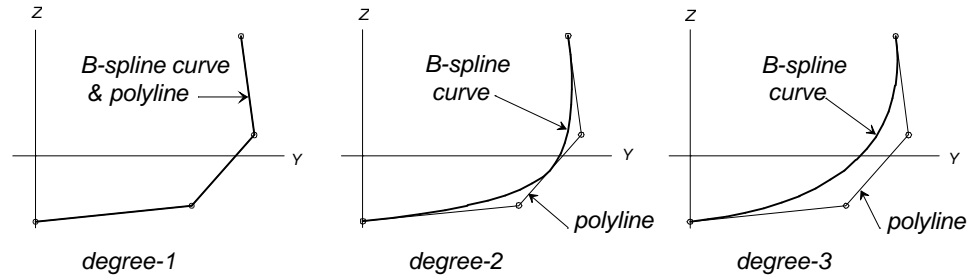

Fig. 1 Three degrees of B-spline Curve
- degree-1 the curve is polyline itself (Fig. 1, left); this is one way to make a polyline entity in MultiSurf
- degree-2 the curve is made of one or more parabolic arcs that join with continuous slope (except at doubled control points) (Fig. 1, middle)
- degree-3 the curve is made of one or more parametric cubic segments that join smoothly with continuous slope and curvature (except at multiple control points) (Fig. 1, Right)